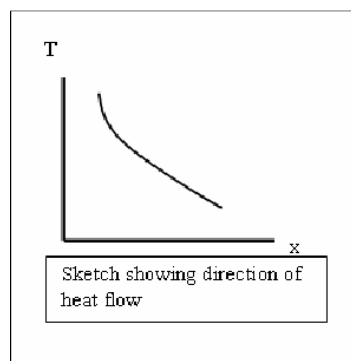

Figure1: Sketch showing direction of heat flow
- The positive constant k = thermal conductivity of the material. The minus (-) sign is inserted so that the second principle of thermodynamics will be satisfied i.e. heat must flow downhill on the temperature scale as indicated in Figure 1